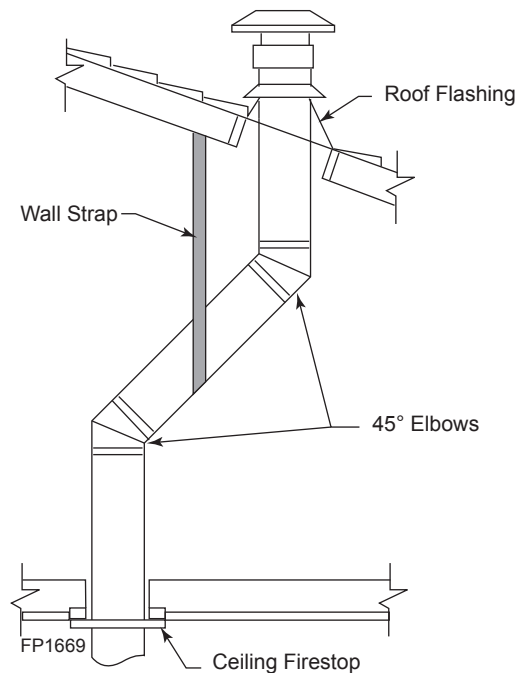

Figure 19 - Offset with Wall Strap and 45° Elbow
1. Determine the route your vertical venting will take. If ceiling joist, roof rafters or other framing will obstruct the venting system, consider an offset. *Figure 19* to avoid cutting load bearing members.
NOTE: If an offset is needed to avoid obstructions, you must support the vent pipe every three (3) feet. Use wall straps for this purpose. See *Figure 19, Page 17*. Whenever possible, use 45° elbows instead of 90° elbows. The 45° elbow offers less restriction to the flow of the flue gases and intake air.
5. Place the flashing over the pipe section(s) extending through the roof. Secure the base of the flashing to the roof and framing with roofing nails. Be sure roofing material overlaps the top edge of the flashing as shown in *Figure 19, Page 17*. There must be a 1" clearance from the vent pipe to combustible materials.